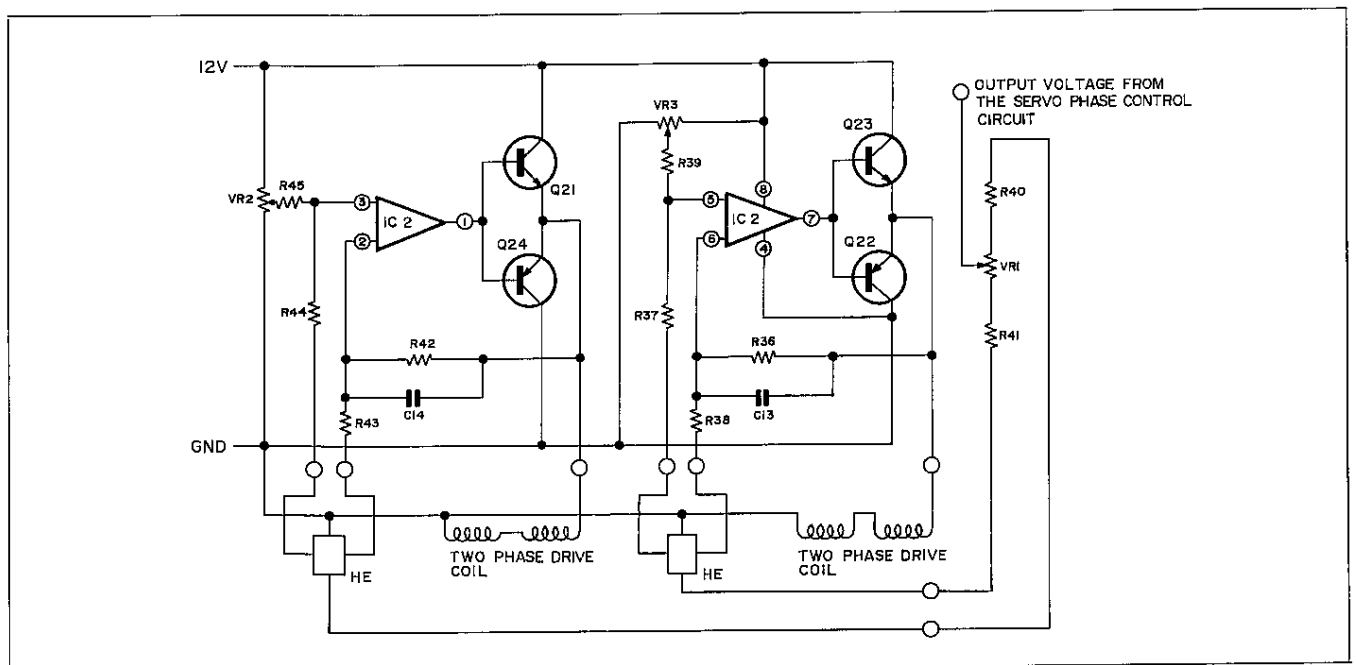

Figure 31 DD MOTOR DRIVE CIRCUIT
(8) DD motor drive circuit (See Figure 31)